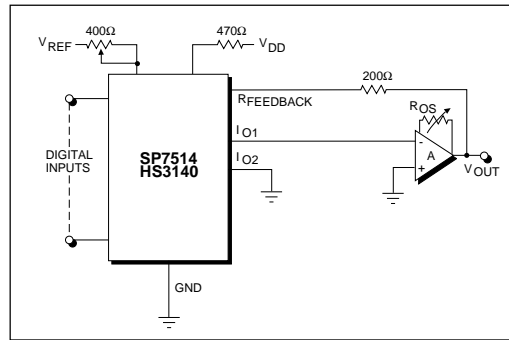

Figure 2. Unipolar Operation
*Figure 2* shows the interconnections for unipolar operation. Connect  $I_{O1}$  and  $FB_1$  as shown in diagram. Tie  $I_{O2}$  (Pin 7),  $FB_3$  (Pin 3), and  $FB_4$  (Pin 1) to Ground (Pin 8). As shown, a series resistor is recommended in the  $V_{DD}$  supply line to limit current during ‘turn-on’. To maintain specified linearity, external amplifiers must be zeroed. Apply an ALL “ZEROES” digital input and adjust  $R_{OS}$  for  $V_{OUT} = 0 \pm 1mV$ . The **SP7514** and **HS3140** have been used successfully with OP-07, OP-27 and LF441A. For high speed applications the SP2525 is recommended.